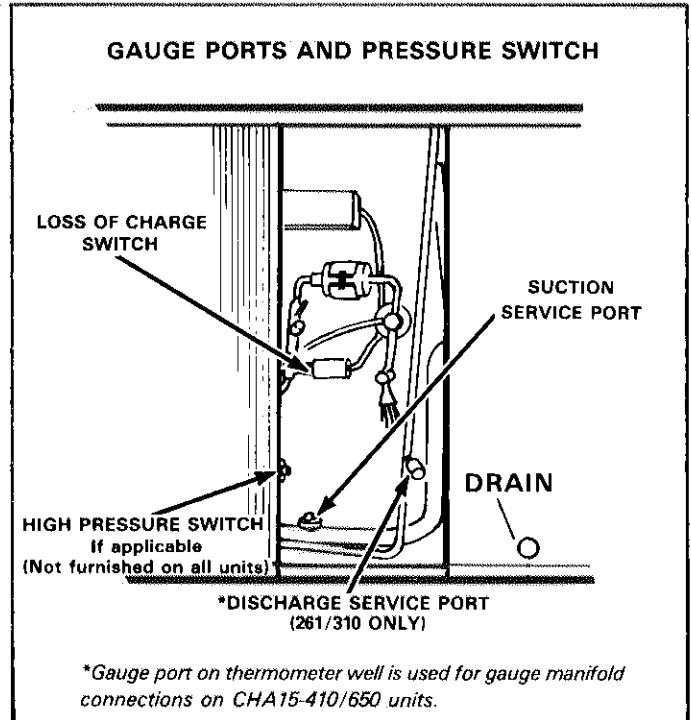

FIGURE 3
- 1 - Attach gauge manifold high pressure line to gauge port on compressor discharge line (261/310 units only). Refer to figure 3. *NOTE - High pressure line is attached to gauge port on thermometer well on CHA15-410/650 units.*
- 1 - Connect gauge manifold as shown in figure 3. Connect an upright R-22 drum to center port of gauge manifold.
Loss of charge switch is located in liquid line as shown in figure 3. Loss of charge switch opens at  $25 \pm 5$  psig and automatically resets at  $55 \pm 5$  psig.
Some models may be equipped with a high pressure switch as shown in figure 3. High pressure switch opens at  $410 \pm 10$  psig and is manually reset.